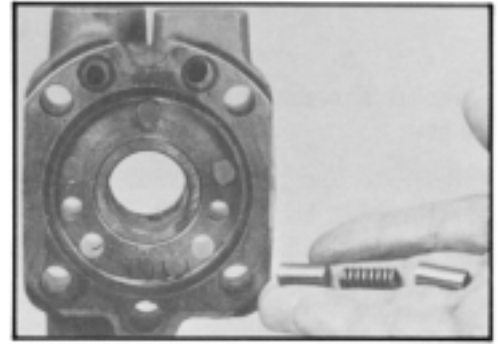

Figure 104
5. Assemble a plunger (15C) a spring (15D) and another plunger (15C) in that order in six through holes in the valve body (15A) as shown in the enlarged exploded view on fold out pages. SEE FIGURE 104.